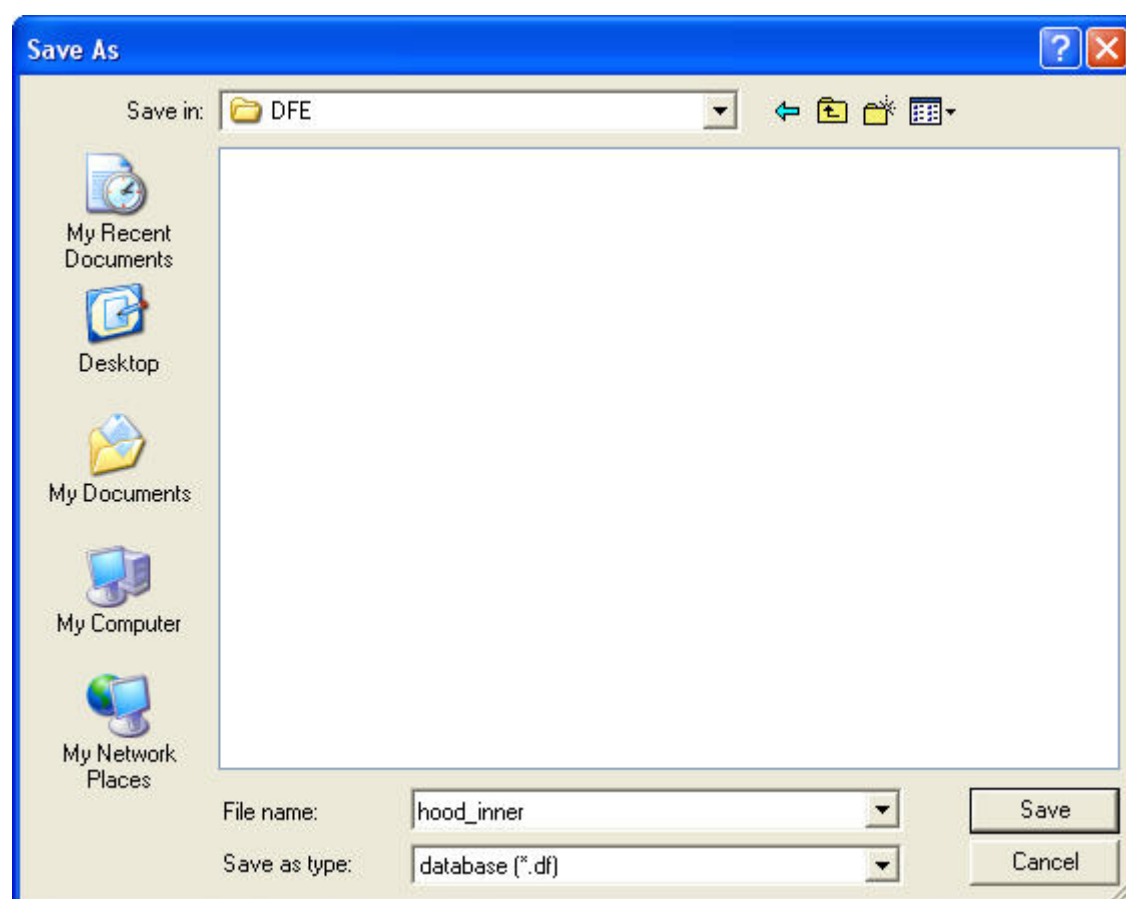

Figure 3 Save As dialog box
1. Click **Save** icon from the **Icon bar** to open the **SAVE AS** dialog box, as illustrated in Figure 3.